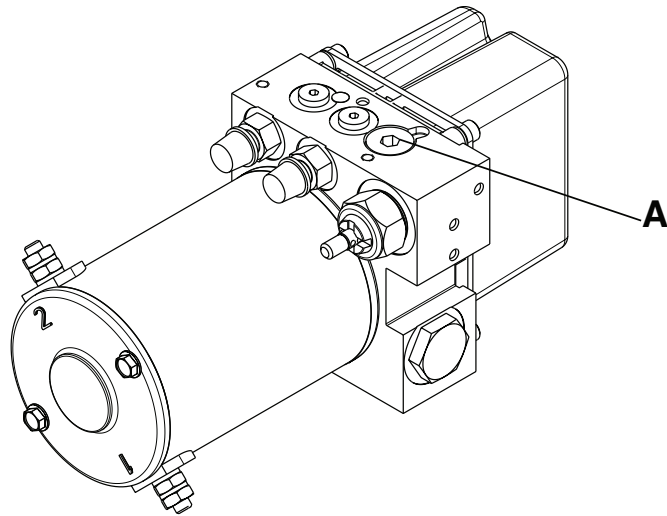

Figure 37 – Hex plug location
4. Using a 1/4" hex wrench, remove the hex plug (A) from the top of the hydraulic manifold assembly (Figure 37).